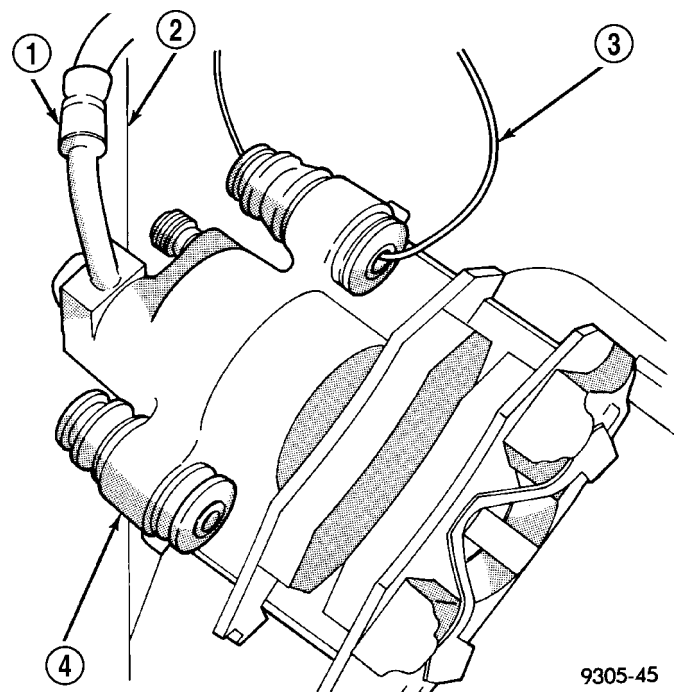

Fig. 20 Storing Caliper
(5) Support caliper assembly firmly from rear strut to prevent weight of caliper from damaging the flexible brake hose (Fig. 20).